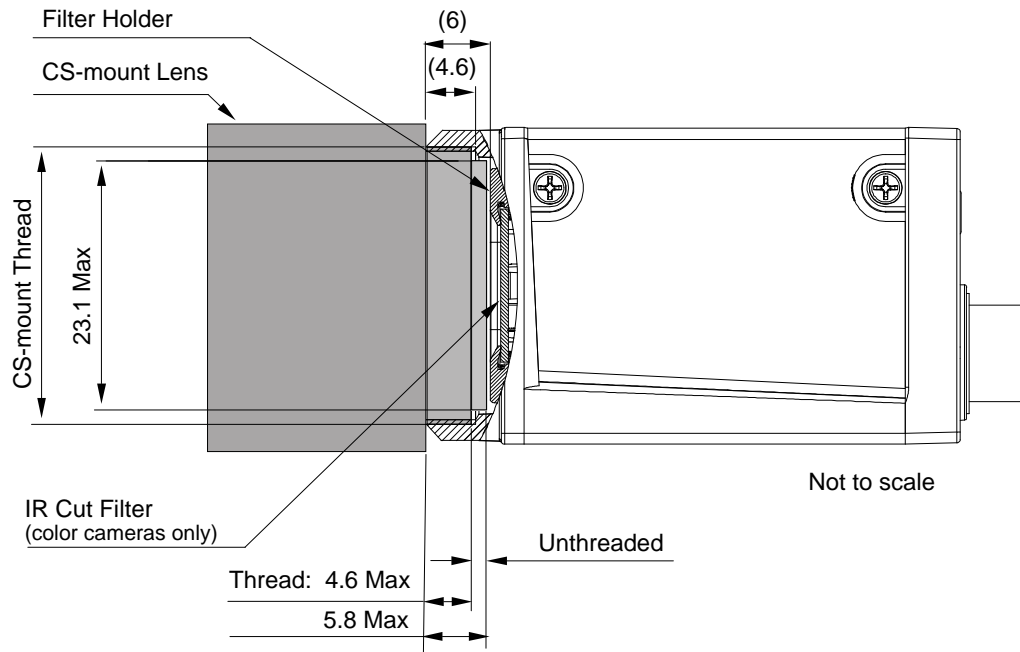

Fig. 33: Maximum Lens Thread Length (Dimensions in mm) for Cameras with the CS-mount Lens Adapter
- Camera with CS-mount lens adapter (see Figure 33):